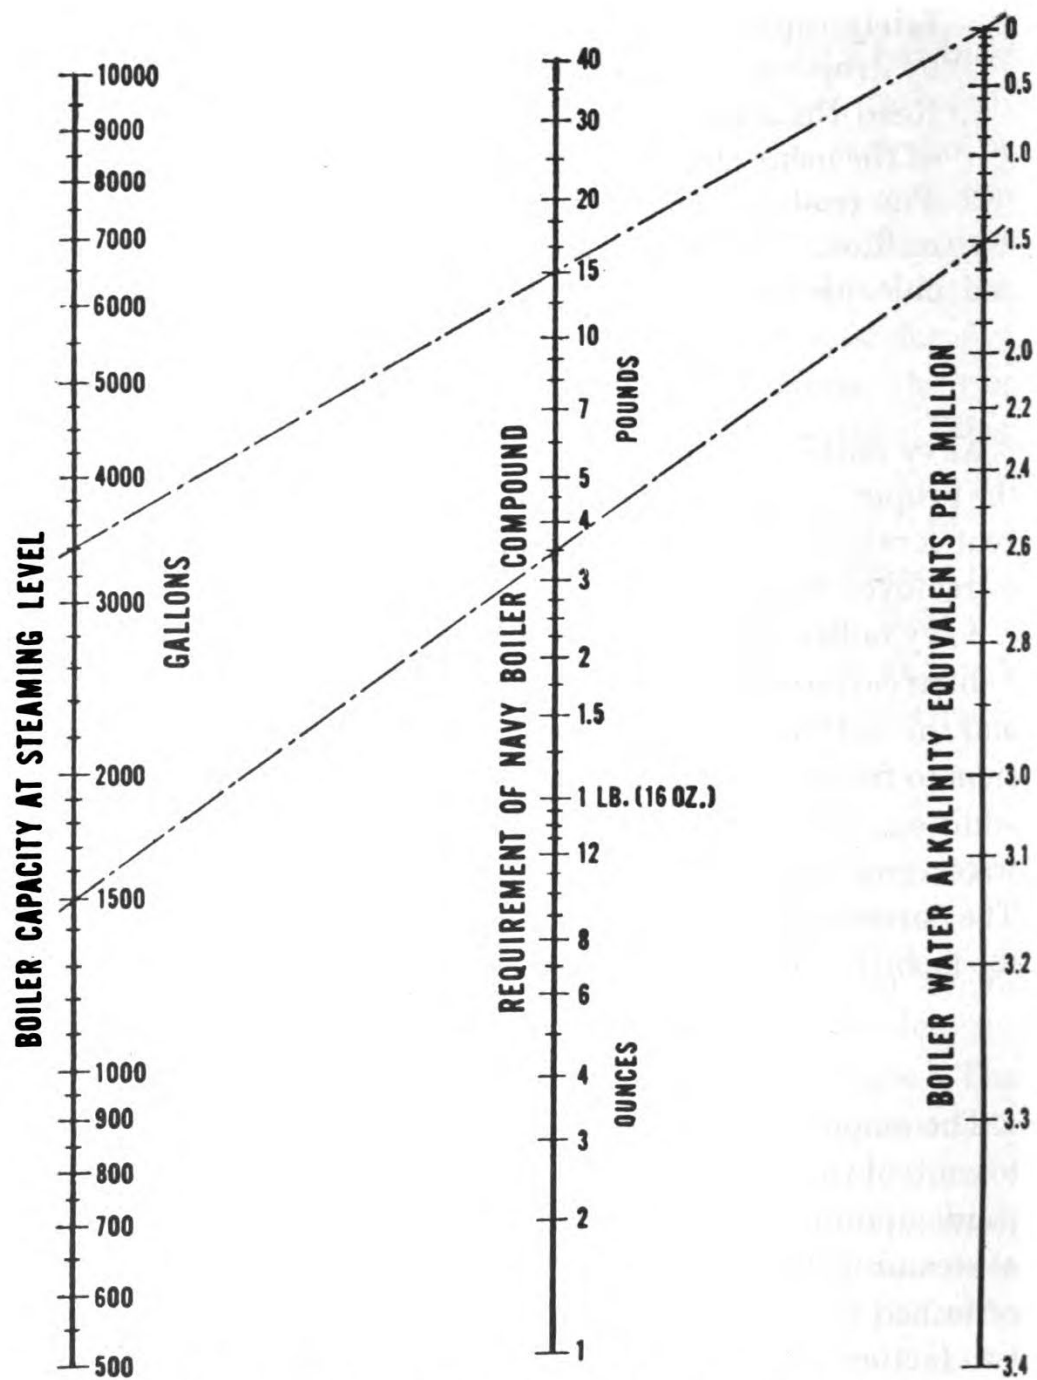

Figure 8-5.—Chart for calculating dosage from boiler water alkalinity.
The amount of compound which must be added to a boiler to control the alkalinity and hardness of the boiler water depends upon two things: (1) the water capacity of the boiler at steaming level, and (2) the condition of the water, as ascertained by the alkalinity and hardness tests. When these two factors are known, the calculation of dosage may be made from the charts shown in figures 8-5 and 8-6.
Figure 8-5 shows the chart used for calculating boiler compound dosage for a steaming boiler, on the basis of the results of the alkalinity test. Place a straight edge across the
Figure 8-5 should also be used to determine boiler compound dosage when a boiler has been emptied and is being filled to steaming level with fresh feed water. In this case, place the straight edge across the chart from ZERO alkalinity to the water capacity at steaming level.